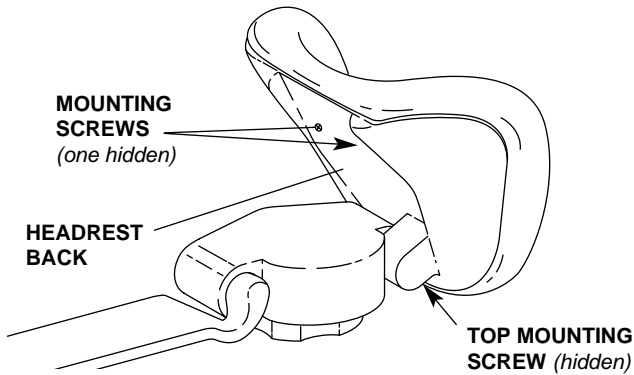

Figure 14. Replacing Headrest Upholstery
3. Rotate the headrest back 45° to expose the two (2) Phillips mounting screws on the headrest back (see Figure 14). Remove the two (2) screws and the headrest cushion.